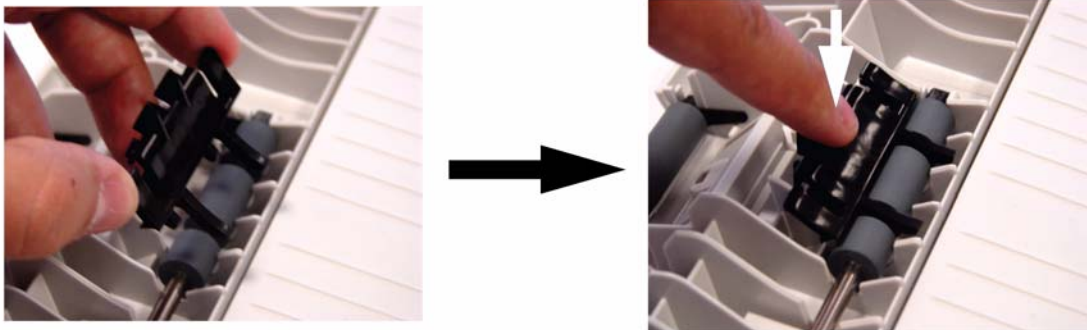

Figure 3
2. Position the paper deflector on the registration roller and press to clip it in place, Figure 3.